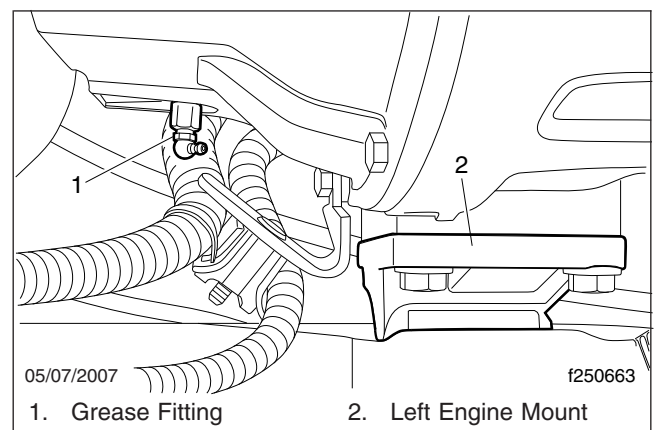

Fig. 2, Typical Release Bearing Grease Fitting
3. Clean the grease fitting. On some vehicles a lube tube will be used, and the fitting may be at the 9-o'clock position on the left side of the bell-housing (see Fig. 2).